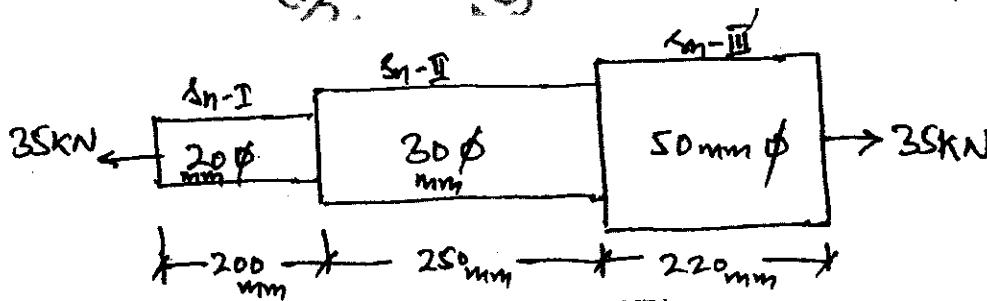

Fig. Q2 (b)
- b. An axial pull of 35 kN is acting on a bar is shown in Fig. Q2 (b) below. If Young's modulus is  $2.1 \times 10^5$  N/mm2. Determine i) Stresses in each section ii) Total extension of the bar (14 Marks)